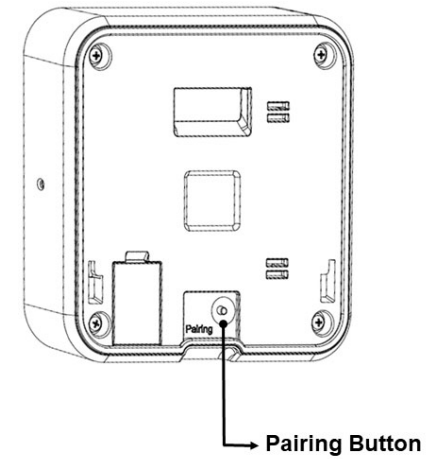

Figure 2
4. Press the Pairing button on the back side of the device (figure 2).